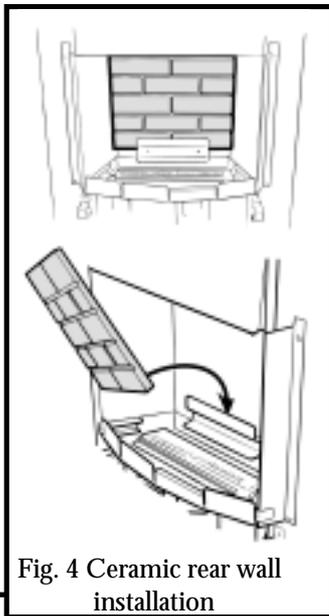

Fig. 4 Ceramic rear wall installation
**1** With its feather edge at the top, place the ceramic rear wall into the channel at the back of the firebox. Push the wall flat against the rear of the fire box. (See figure 4).